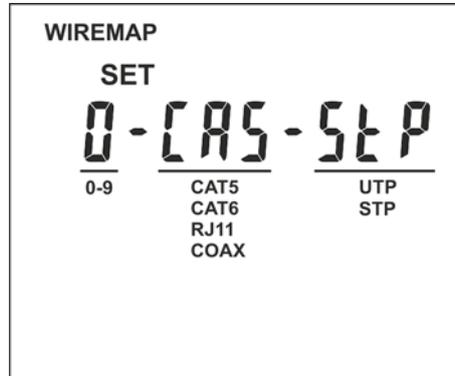

Fig. 5: Setting the cable type
3. Press the arrow keys ← or → until you display the screen in Fig. 5 - left side